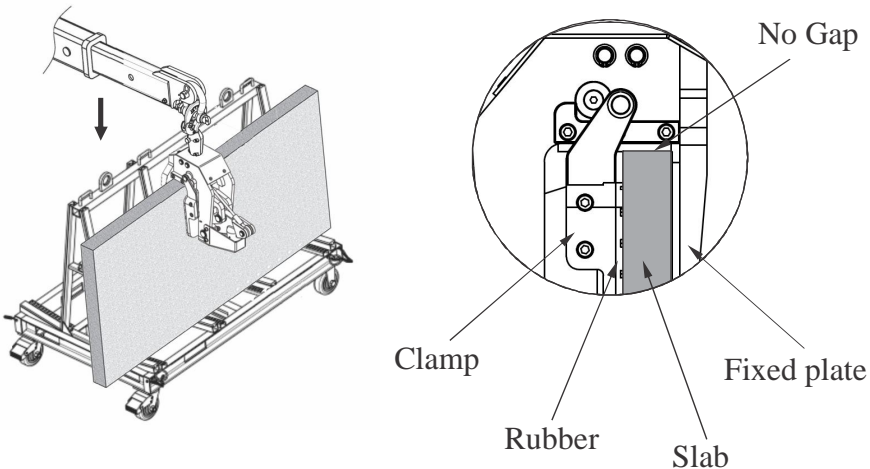

Figure 2a
- Clamp the top part of the slab at the center from the pack of slabs using a pinch bar and/or a wedge (figure 2a), allowing enough room for back plate of the clamp to pass between the pack of slabs.